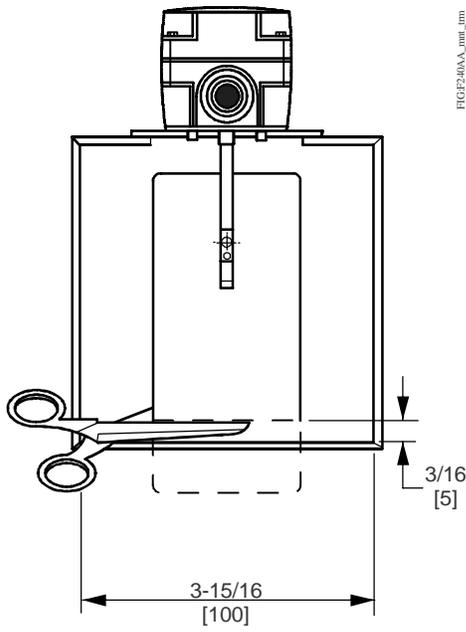

Figure 3: Trimming the Paddle, Dimensions, in. [mm]
4. Trim the paddle, if necessary (see Figure 3). The standard paddle fits into ducts of 3 x 8 in. (76 x 203 mm) minimum. The paddle may be trimmed for installing in ducts as small as 3 x 6 in. (76 x 152 mm).